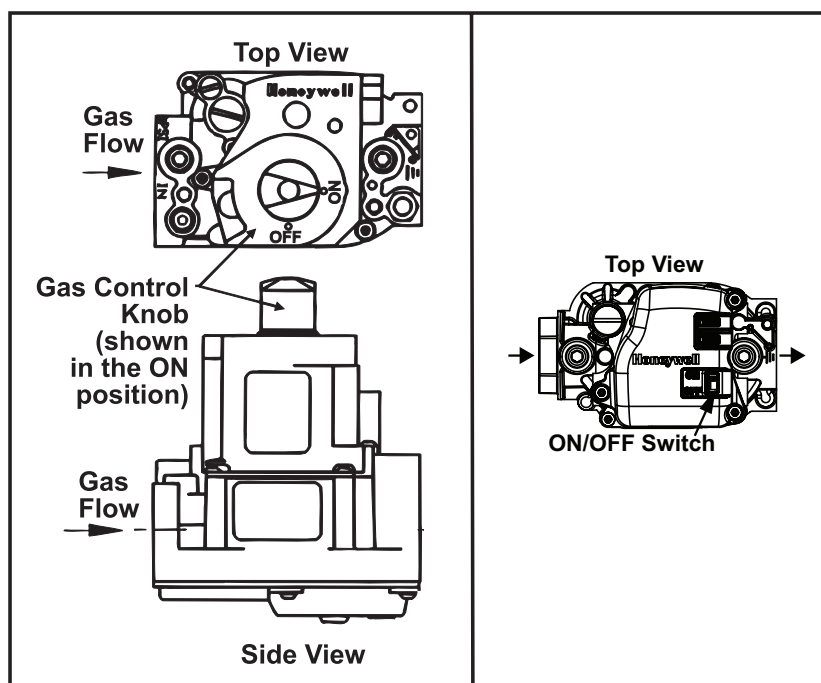

Figure 27. Combination Gas Valve ON/OFF Control
3. Open access door and locate gas control (ON/OFF) knob or switch on combination gas valve (see Figure 27).